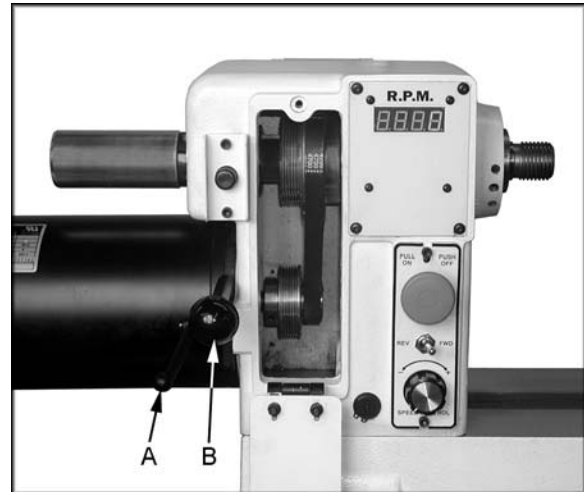

Figure 11
2. Loosen the locking handle (A, Figure 11).
3. Lift up on the tensioning handle (B, Figure 11) to remove tension from the poly v-belt. You can now position the belt in the desired speed range. It is pictured in the low speed pulley range. Note: The "High" speed range (120-3200) provides maximum speed, where as the "Low" speed range (50-1200) will provide maximum torque.